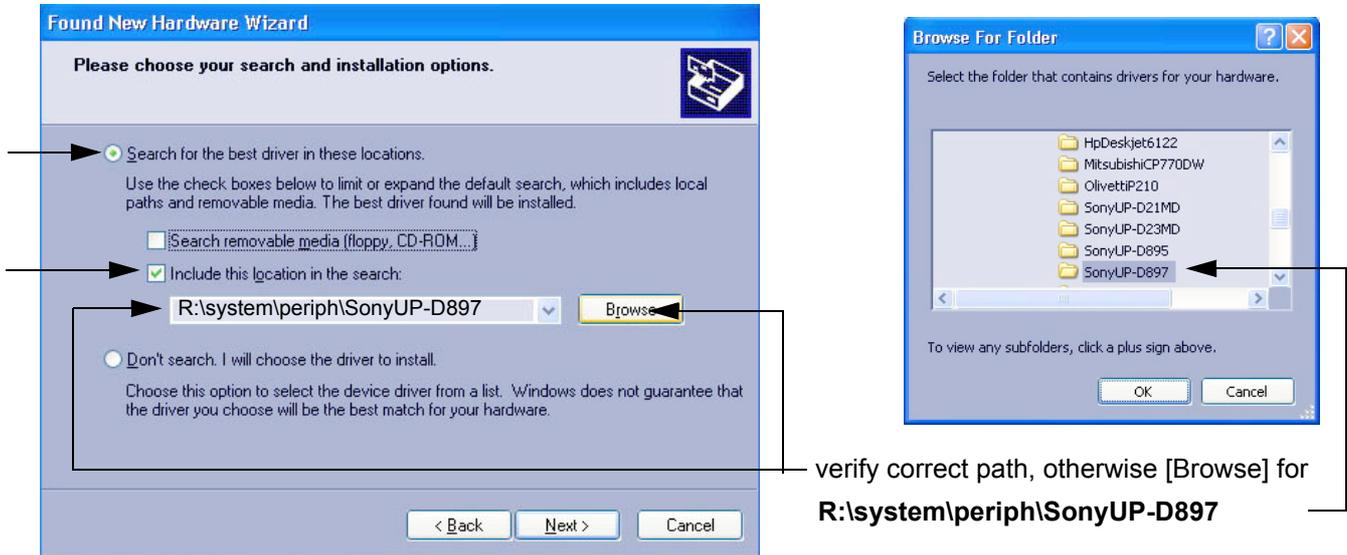

Figure 3-98 Search for Network path
- 4.) Select "Search for the best driver in these locations" and check mark "Include this location in the search" (see: Figure 3-98 on page 3-82).
NOTE: If path (R:\system\....) is different from what is shown in Figure 3-98, click on the BROWSE button to search correct driver.
NOTE: If path (R:\system\...) is different from what is shown in Figure 3-98, click on the BROWSE button to search correct driver.